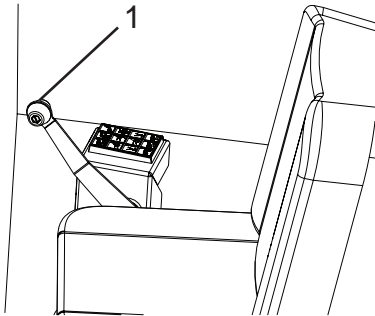

Figure 94
2. Control the drum speed by manipulating the drum control lever (Figure 94, Item 1) in the cab, or the control lever (Figure 95, Item 1) on the drum control lever at the rear of the truck.